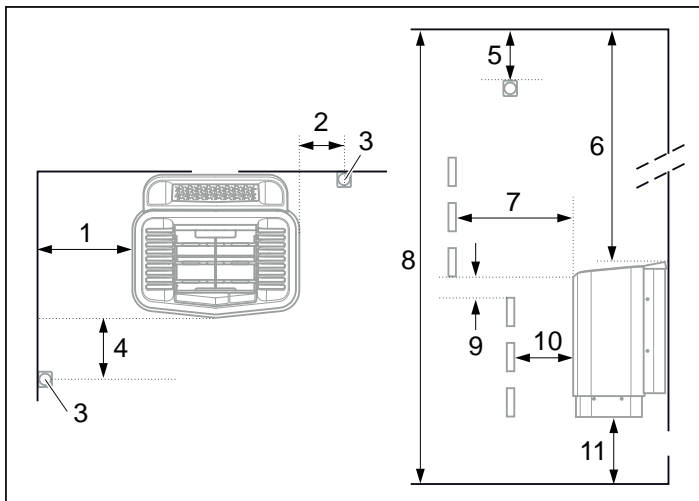
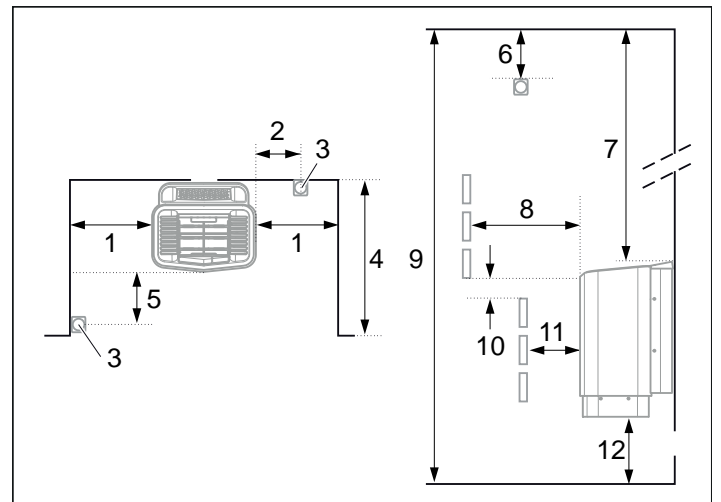

Figure 3: Positioning the heater - normal installation
Figure 5: Positioning the heater - recess installation
- Plan the sensor positioning (see Figure 3, page 11 and Figure 5, page 11).
- on the same wall as the door (or the side wall if very close to the door wall). The heater may also be placed in a recess (see Figure 5).
- Position the heater at a safe distance from the floor, side walls and interior fittings (see Figure 3).
Position the sensor according to the picture (see Figure 3).
1. Position the heater at a safe distance from the floor, side walls and interior fittings (see Figure 5).
2. Position the sensor according to the picture (see Figure 5).